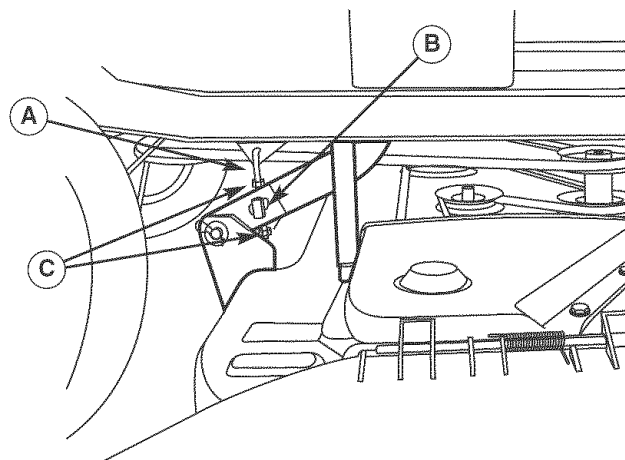

Figure 41. Side-to-Side Adjustment
6. See Figure 41. Side-to-side leveling is accomplished using the threaded rods (A) and trunnion (B) on the right and left rear sides of the mower deck. Loosen the jam nuts (C) and adjust the nuts up or down to adjust the mower level. When complete, tighten the jam nuts against the trunnion to lock the adjustment in place.